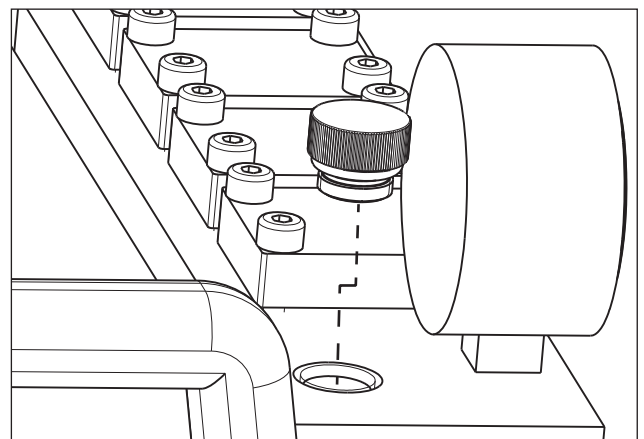

Figure 4 - Oil Fill Plug
2. Verify that the pump hydraulic pressure gauge and pump air pressure gauge both read zero (0) psi/bar.
5. Loosen and remove the oil fill plug. See Figure 4.